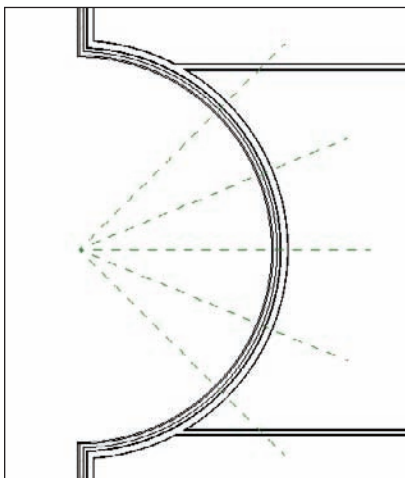

FIGURE 4.16 You can control the number of items in an array group after you create the array.
15. You now have five reference planes, as shown in Figure 4.16.